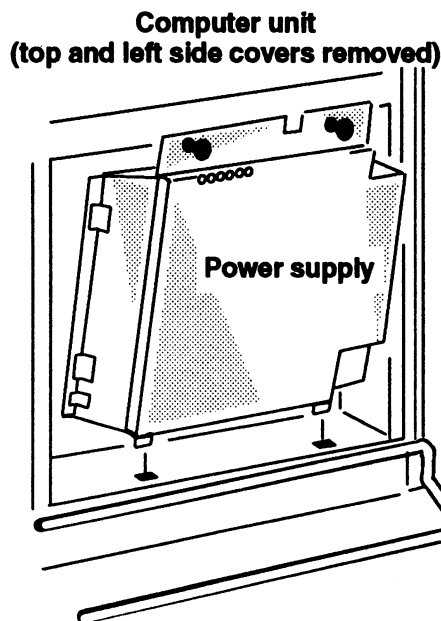

Figure 11-6 Inserting the Power Supply into the Computer Unit
3. Insert the two tabs on the bottom of the power supply into the slots at the base of the computer unit as shown in Figure 11-6.